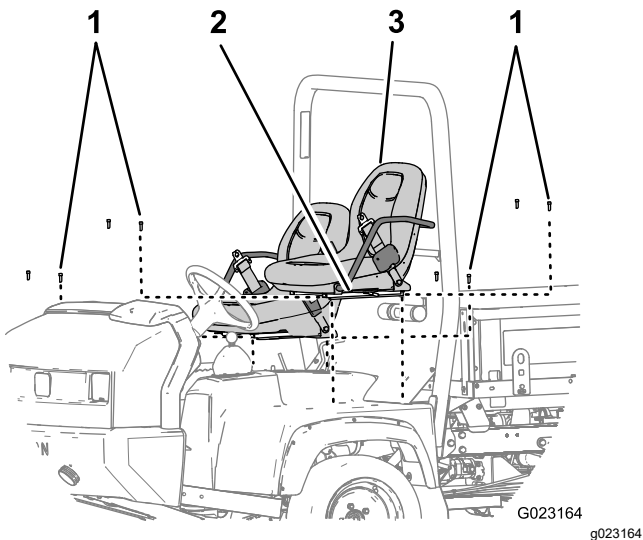

Figure 8
4. Remove the 8 socket-head bolts that secure the seat rails of the seat to the chassis and remove the seats (Figure 8).